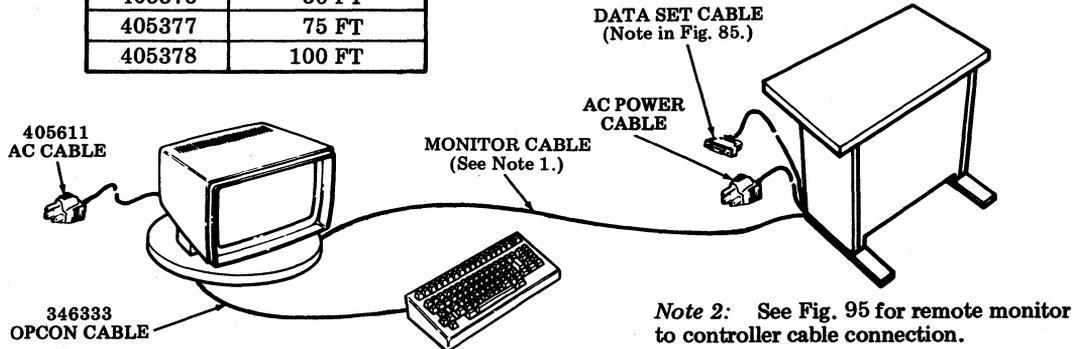

Fig. 86—KD Remote Opcon and Monitor
- Fig. 86 — KD Remote Opcon and Monitor